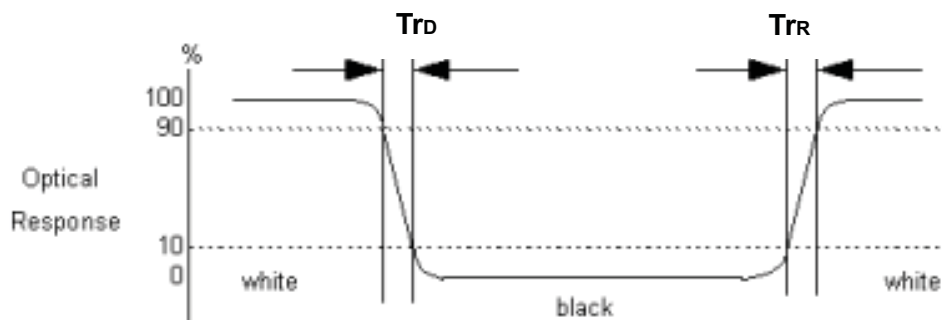

Fig.4-3 Response time
4. Response time is the time required for the display to transition from white(L255) to black(L0) (Decay Time,  $Tr_D = T_f$ ) and from black(L0) to white(L255) (Rise Time,  $Tr_R = T_r$ ). For additional information see Fig. 4-3.